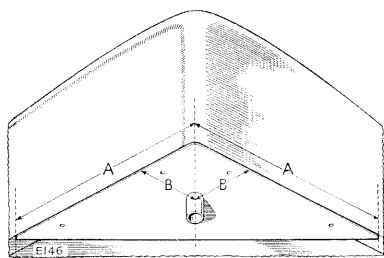

Fig. R-4—Fitting corner plate to bottom front corners of seat cushion
2. Drill four .204 in. (5 mm) diameter holes (drill No. 6) and one ¾ in. (8,5 mm) diameter hole as shown at Fig. R-4.